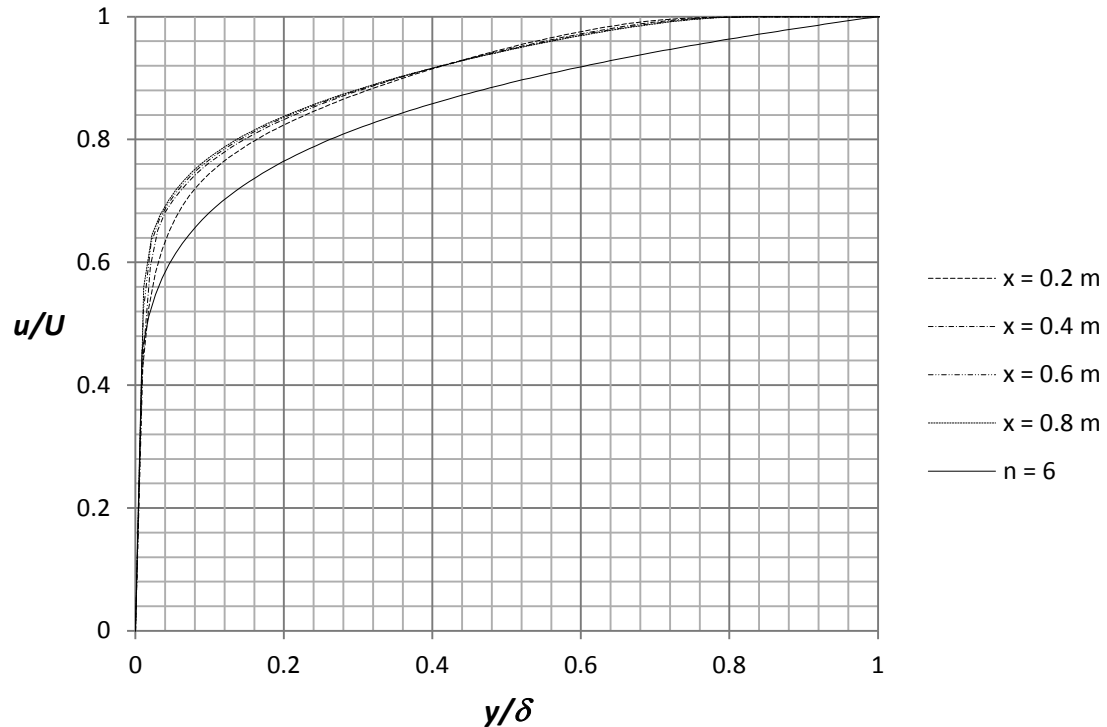

Figure 2.31 The same profiles as in figure 2.30a) compared with one-sixth power law for turbulent profile.
33. Place the file “**graph 2.31**” on the desktop. Repeat step **24** and choose the sketch **x = 0.2, 0.4, 0.6, 0.8 m** and check the box for **Velocity (X)**. Rename the xy-plot to **Comparison with One-Sixth Power Law**. An Excel file will open with Figure 2.31. In figure 2.31 we compare the results from Flow Simulation with the turbulent profile for  $n = 6$ . The power –law turbulent profiles suggested by Prandtl are given by